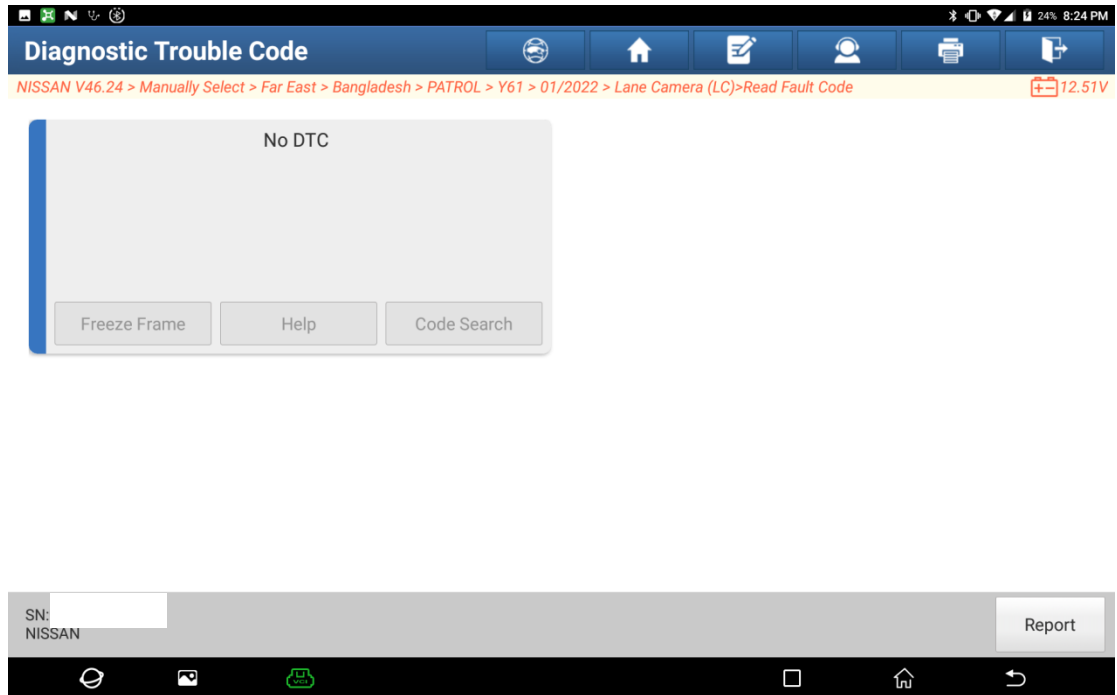

Figure 21
21. The display shows no DTCs. See Figure 21. The vehicle front camera calibration is now completed.